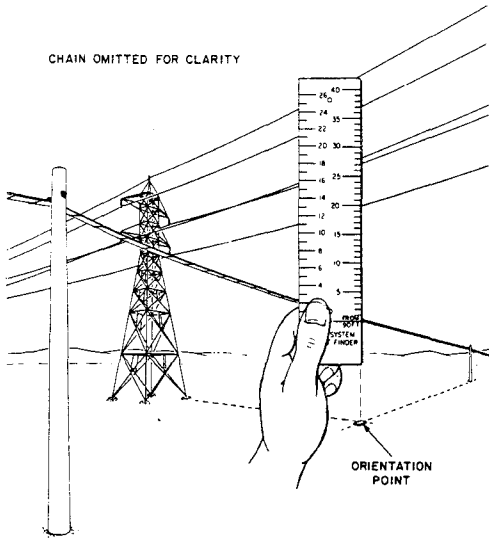

Fig. 9—Measuring Vertical Clearance With B Height Finder
3.07 To find the clearance between wires in a crossover, establish a point on the ground directly under the crossover, as described in 2.07. Mark this point on the ground with a pole stake or a short, pointed stick. Measure off a 90-foot baseline and make the measurement as described in 3.06, using the pole stake as an orientation point (Fig. 9).